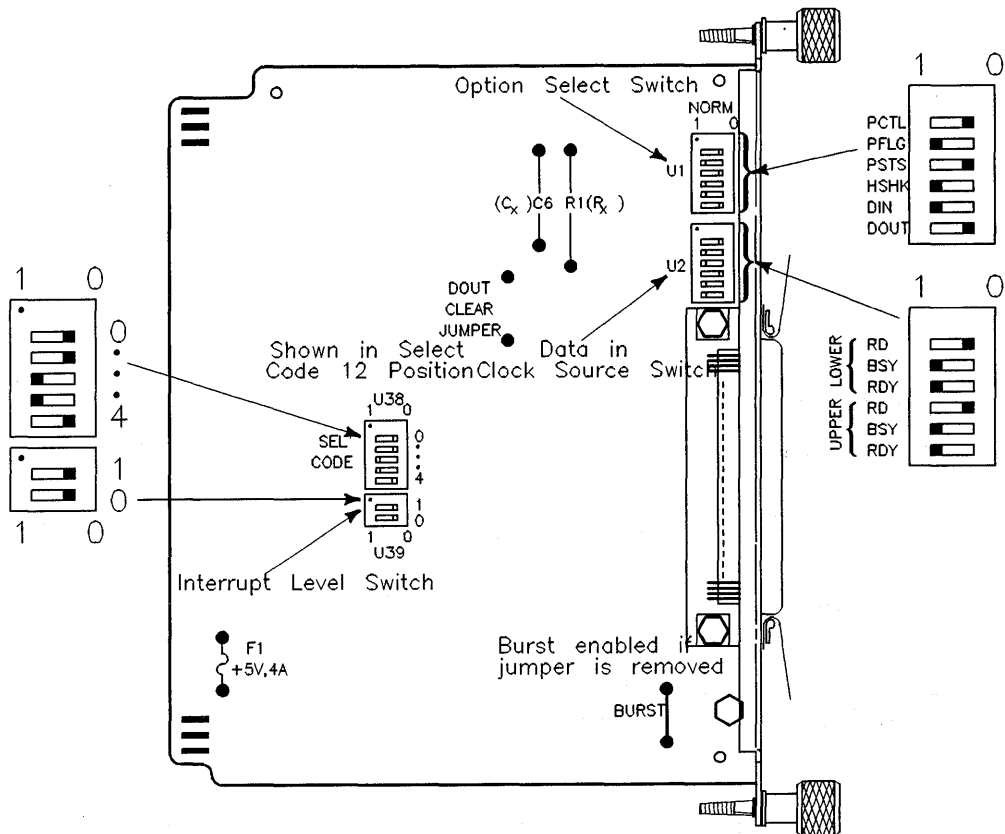

Figure 10-1. HP 98622A GPIO Interface Card Switches and Jumpers
Refer to Figure 10-1 for switch and jumper positions.
2. Find the set of five switches labeled U38 on the GPIO Interface as shown in Figure 10-1. This group of switches determines the select code.
Setting the Data-in Clock Source Clock Switches. The Data-in Clock Source switches are labeled U2. If you are connecting an HP 9884A Paper Tape Punch to this interface, set these switches as shown in Figure 10-1.
1. Refer to Figure 10-1 and find the DOUT CLEAR and BURST jumpers.